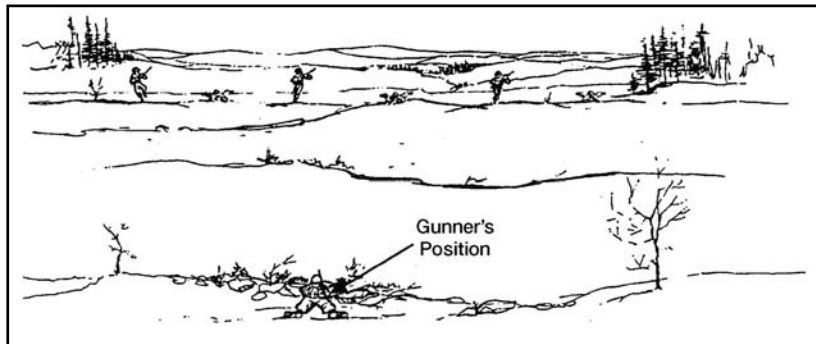

Figure 071-313-3454-10. Linear target and one gun
(3) Linear target with depth. Initially aim at the midpoint of the target, unless another portion of the target is more critical or presents a greater threat. Traverse and search to the flank closest to your position, then back to the other flank, so you cover the entire target (figure 071-313-3454-11).